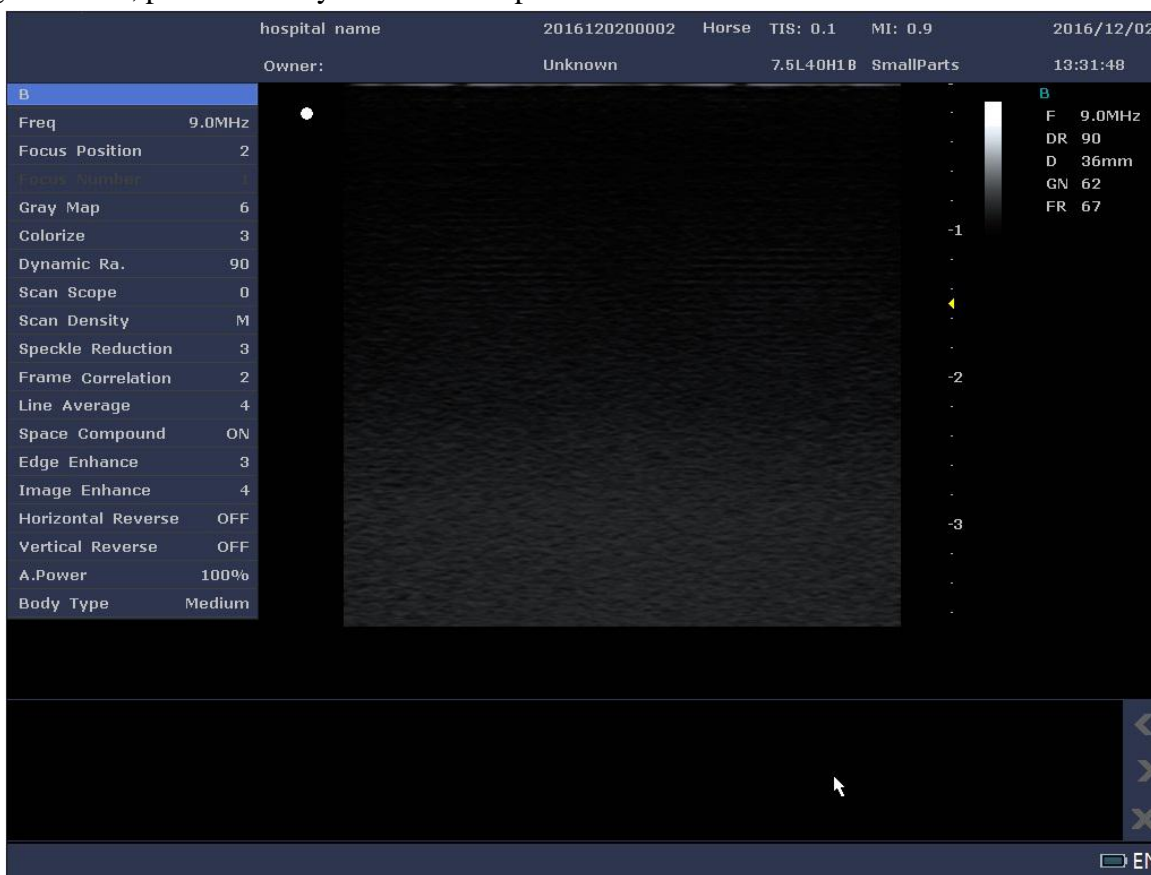

Figure 8-1 B Mode Image
1. Select the appropriate probe and exam type, and the system automatically enters the B mode, as shown in Figure 8-1. Or, press the **B** key on the control panel to enter the B mode from other modes.